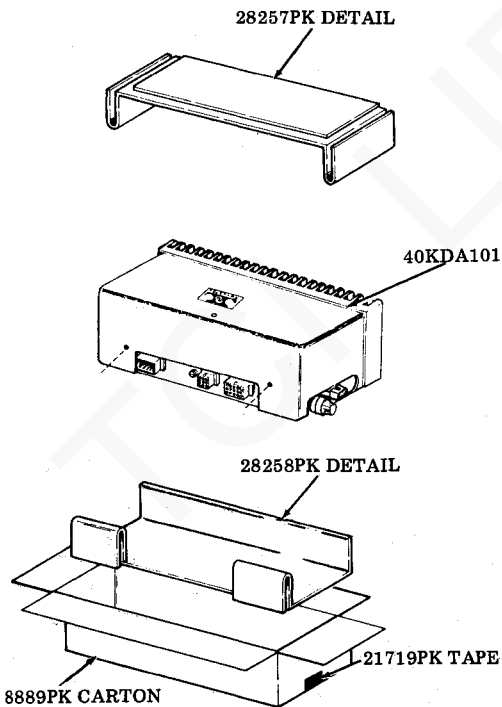

Fig. 47
- Step 3. Form a 28258PK detail and place in carton as shown in Fig. 47.